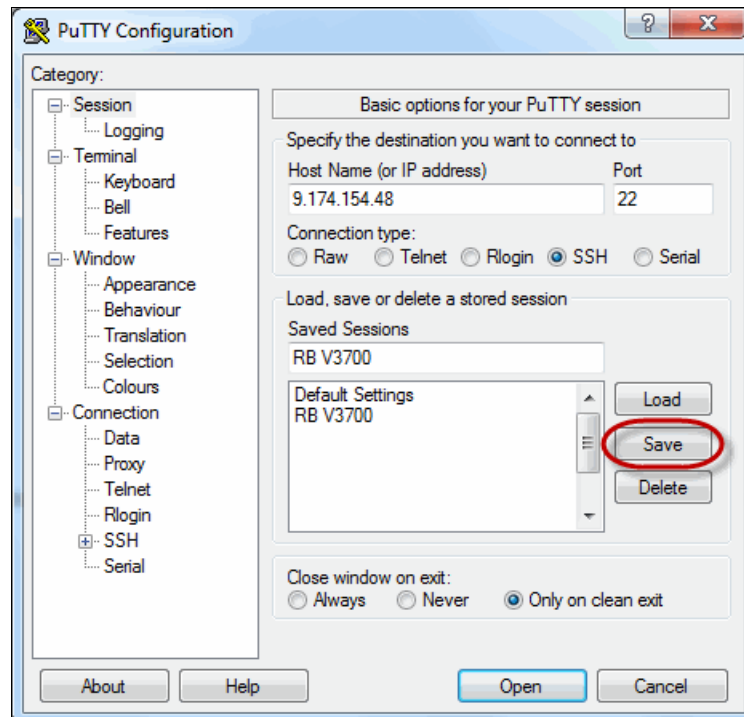

Figure A-13 Save Session
10. Click **Save** to save the new session, as shown in Figure A-13.